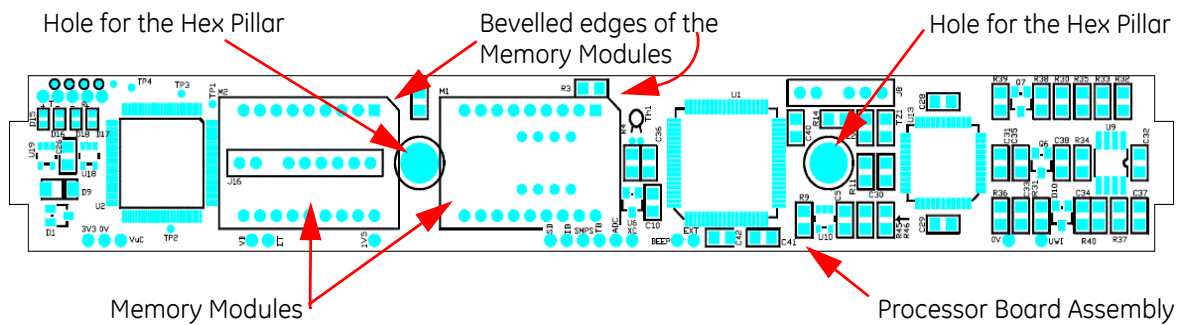

Figure 7.1 Identification of the two Memory Modules
- 3 On the Processor Board Assembly (item 8), identify the Memory Module (P/N: 82189S) that is to be replaced. See Figure 7.1.
Make sure the bevelled corner of the Memory Module matches the silk screen outline on the Processor Board Assembly. See Figure 7.1.